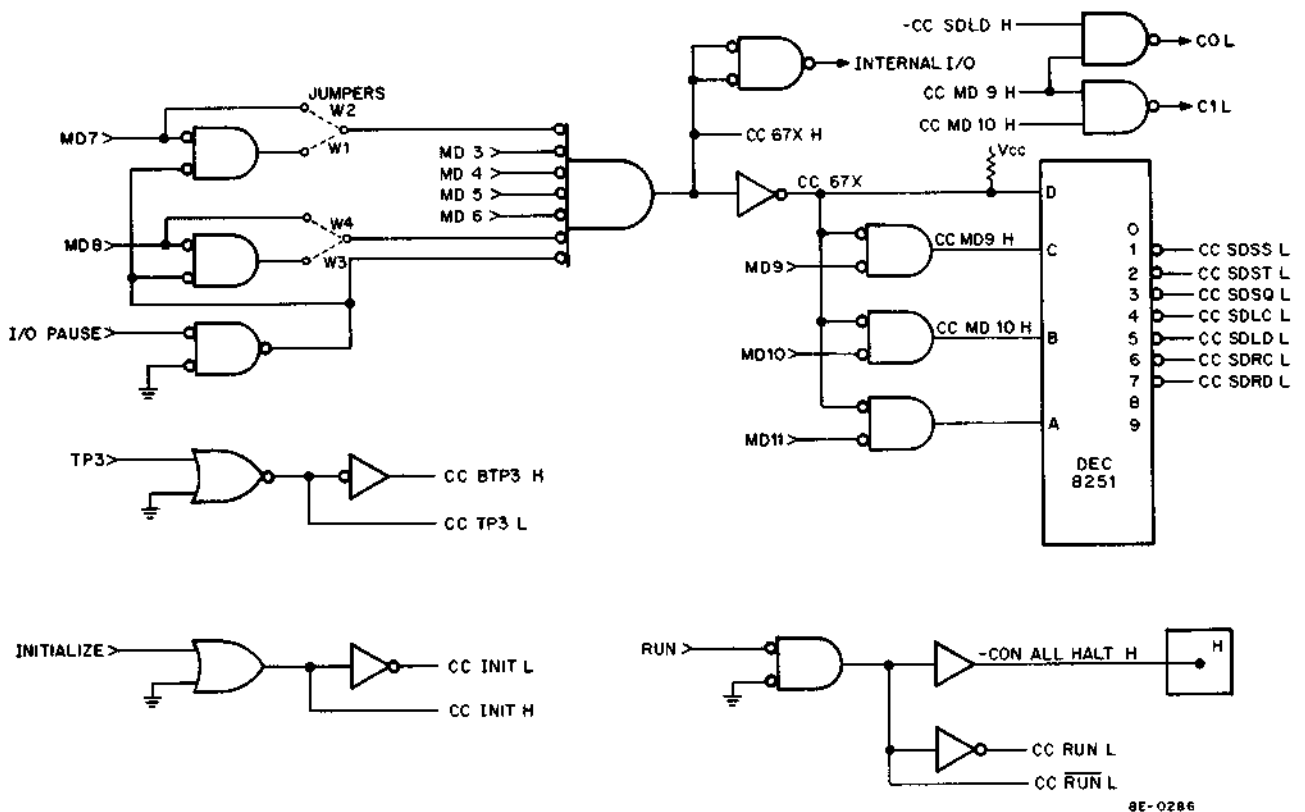

Figure 8-9 I/O Decoder Detailed Logic
The I/O decoder decodes instructions from the Memory Data Bus and generates signals to control the operation of the TD8-E (Figure 8-9). Bits MD 3–11 are gated by the I/O PAUSE when an I/O instruction is generated. Bits MD 3 to MD 8 generate a signal CC67XH applying bits MD 9, MD 10, and MD 11 to the 8251 IC. The 8251 IC is a BCD-to-Decimal decoder (see Volume 1, Appendix A, for truth table logic and pin locations) which decodes MD 9–11 and produces a low on one output line. The low out of the 8251 IC indicates which instruction is to be executed. As an example MD 9 Low, MD 10 and MD11 High (100) produces a low on pin 4 which indicates an SDLC instruction was programmed. The jumpers for MD 7 and MD 8 will select the device code (see Table 8-3 for device codes) for multiple TD8-E Systems.
**8.7.1.1 C Line Select Logic** – The C line logic (Figure 8-9) controls the direction of data flow between the DATA BUS and the AC and determines if the AC is clear or not. Table 8-5 shows the status of C0 and C1 to transfer data between the AC and the DATA BUS using the SDLC, SLDL, SDRD, and SDRD instructions.
**8.7.1.2 Time Pulse 3 Logic** – TP3 shown in Figure 8-9 is used throughout the module to enable gates for execution of instructions.
The stop/go logic (S/G) flip-flop (Figure 8-9) enables the tape to move in a direction determined by the F/R flip-flop. If AC bit 2 is a 1 when the SDLC instruction is performed, the S/G flip-flop sets. The output of the flip-flop is applied to a latch which also has TP4 as an input. TP4 clocks the latch 300 ns after S/G is set and pulls latch output low. The 300-ns delay allows the unit select lines to settle before the S/G signal is applied to the TU56M. S/G is ANDed with POWER OK to remove the GO signal from the TU56M during a power down. Power in the TU56M does not drop as quickly as power on the PDP-8/E and the tape may continue to run and write erroneous data.